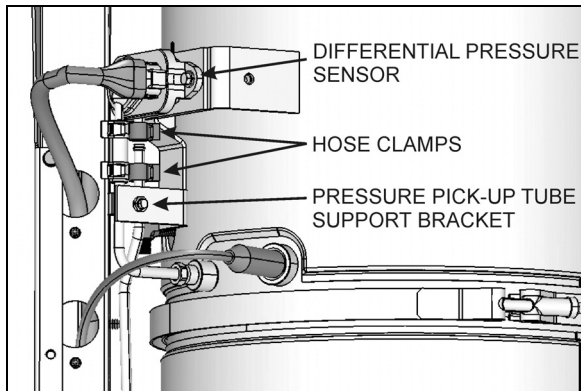

FIGURE 7: PRESSURE DIFFERENTIAL SENSOR AND TAKE UP TUBES (VOLVO D13 ONLY) 04026
7. **With Volvo D13 engine;** Dismount the differential pressure sensor and detach the two hoses from the differential pressure sensor. Detach the two pressure pick-up tubes from the support bracket. This will help to clear the way off for removal of the DPF cartridge from the compartment (figure 7).
2. For proper angular position, make sure that the two edges shown on figure 7 are parallel with each other.